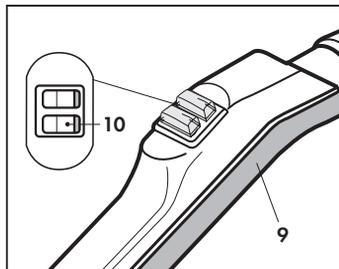
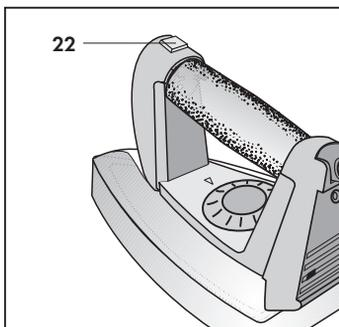

Fig. 23
Fig. 24
**When the red warning light (C) is on, it indicates that there is no water in the boiler:** if this happens, the thermostat will automatically stop the appliance. Carry out the following procedure:
- b) discharge any pressure in the boiler through the accessory you have been cleaning with by pressing the red switch (10) on the handle (9) (**Fig. 23**). If you are using the iron, press button (22) (**fig. 24**).
- f) slightly loosen the fill-up cap (E) and wait until pressure has been released completely.